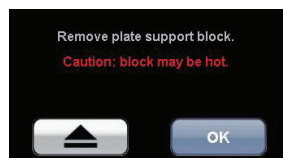

Fig. 7. Remove support block.
1. Remove the plate support block and sealing frame when the instrument is turned on (Figure 7). Touch the  button to open the drawer and ensure that both the plate support block and sealing frame are removed from the instrument. Once removed, touch **OK**. The instrument will automatically begin heating to the last set temperature.